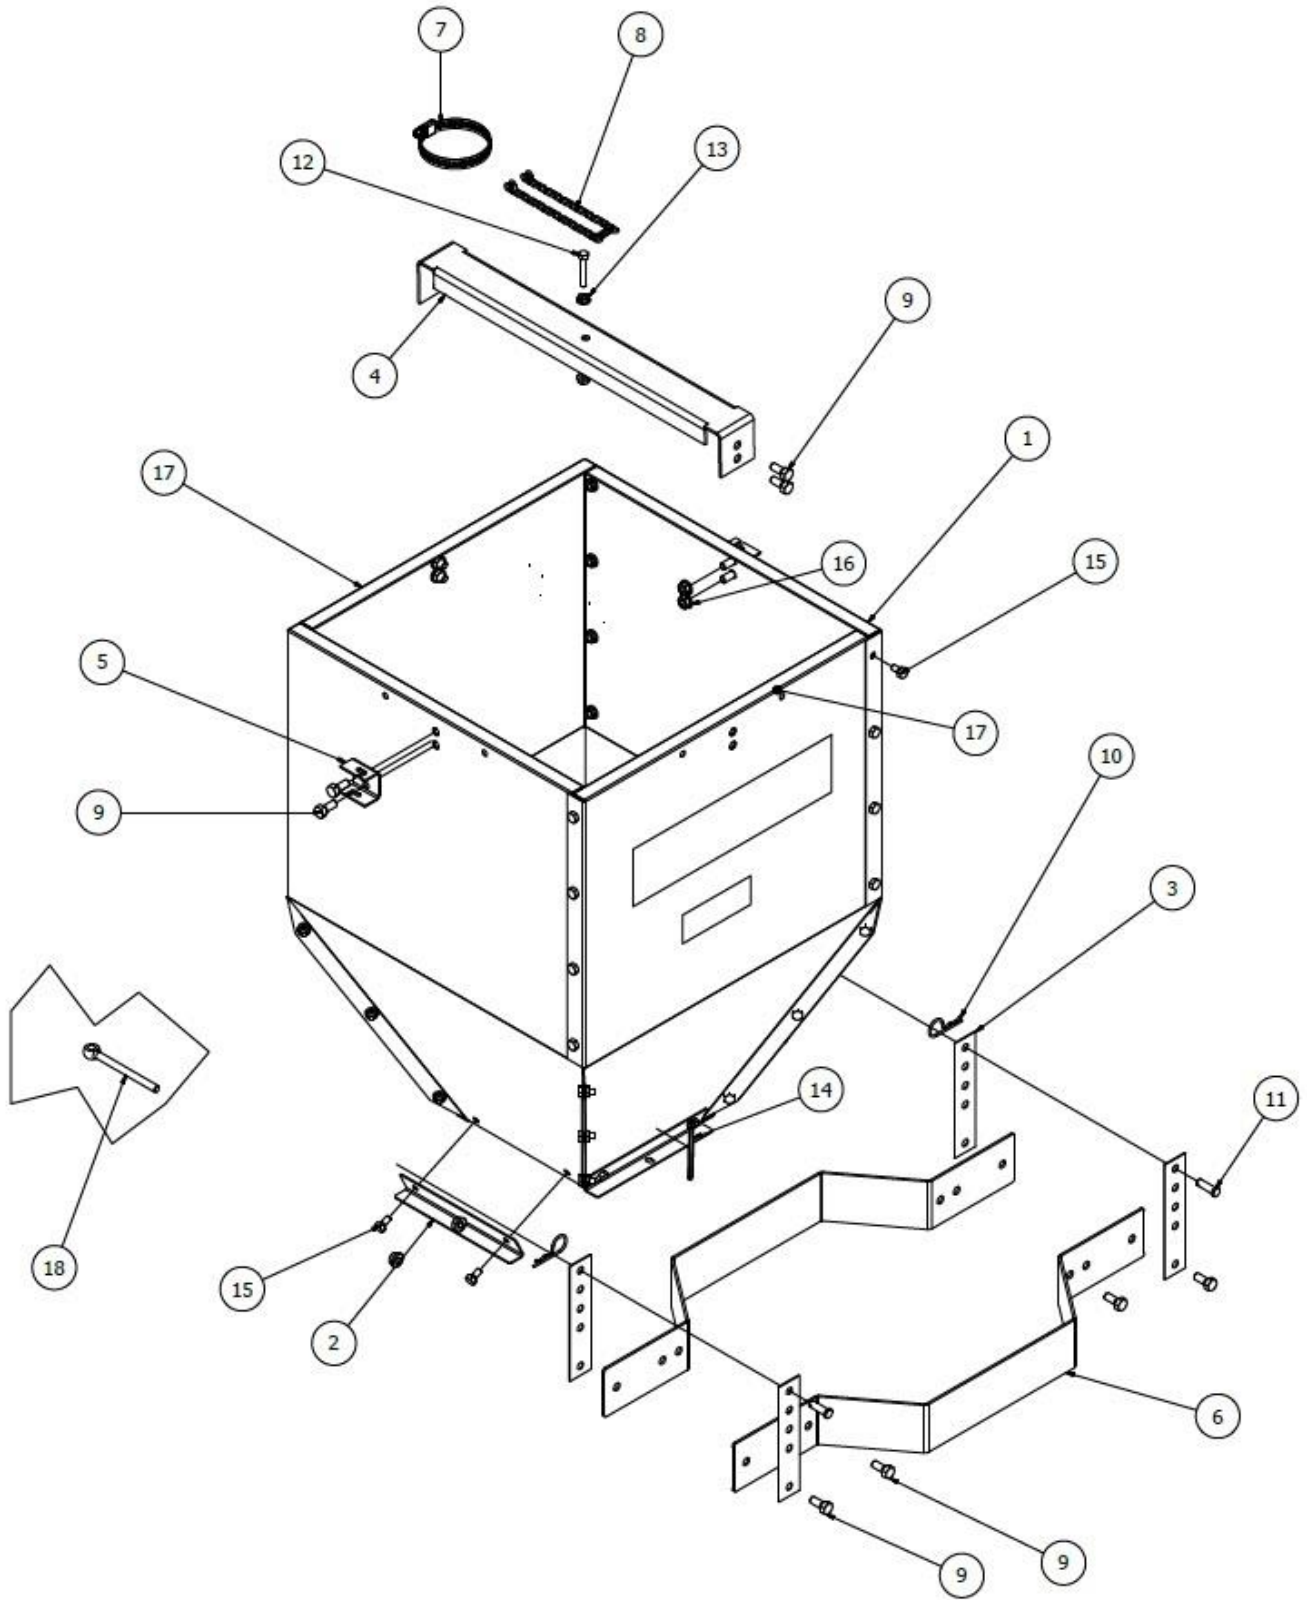

Figure 1
1. Assemble (4) Side Sheet Hopper Panels (Ref# 1) as shown above in Figure 1 using Hex Bolts 1/4-20 X 0.5" (Ref# 15) and Hex Flange Nuts 1/4-20 (Ref# 13). Hand Tighten
2. Attach (4) Boot Hanger Brackets (Ref# 2) to the outside of the hopper body as shown above in Figure 1 using Hex Bolts 1/4-20 X 0.5" (Ref# 15) and Hex Flange Nuts 1/4-20 (Ref# 13). Hand Tighten
3. Attach (2) Cable Guide Brackets (Ref# 5) to outside of hopper body as shown above in Figure 1 using Hex Bolts 5/16-18 X 0.75" (Ref# 9) and Hex Flange Nuts 5/16-18 (Ref# 16). Hand Tighten
4. Attach Top Brace (Ref# 4) to outside of hopper body as shown above in Figure 1 using Hex bolts 5/16-18 X 0.75" (Ref# 9) and Hex Flange Nuts 5/16-18 (Ref# 16). Hand Tighten
6. Attach (4) Hopper Adjustment Brackets (Ref# 3) as shown above in Figure 1 using Hex bolts 5/16-18 X 0.75" (Ref# 9) and Hex Flange Nuts 5/16-18 (Ref# 16). Hand Tighten.
7. Suspend Lower Assembly using Clevis Pins (2) (Ref# 11) and Hairpins (2) (Ref# 10) from feed system support cables.
8. Slide bottom of hopper body into upper channel of the Unloader and secure with Cotter Pin (Ref# 14) as shown above in Figure 1.